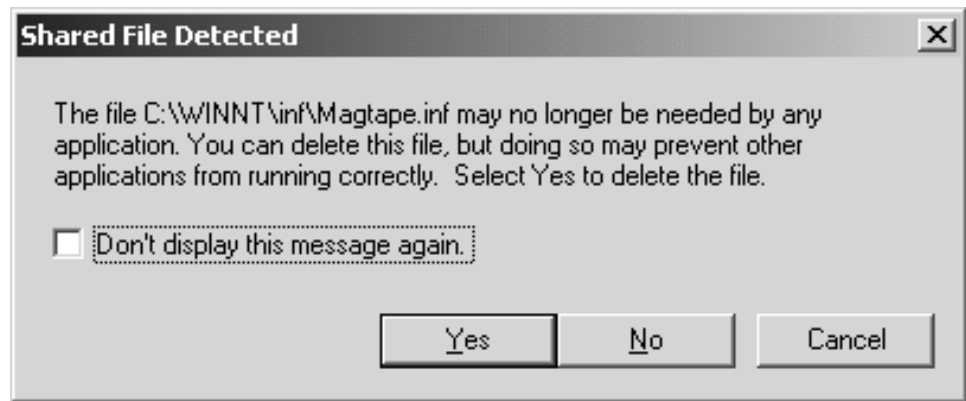

Figure 48. Shared File Detected Menu
10. Follow the InstallShield Wizard instructions to uninstall your IBM Ultrium device drivers. During the uninstall process, the InstallShield Wizard may ask you a question. See Figure 48.